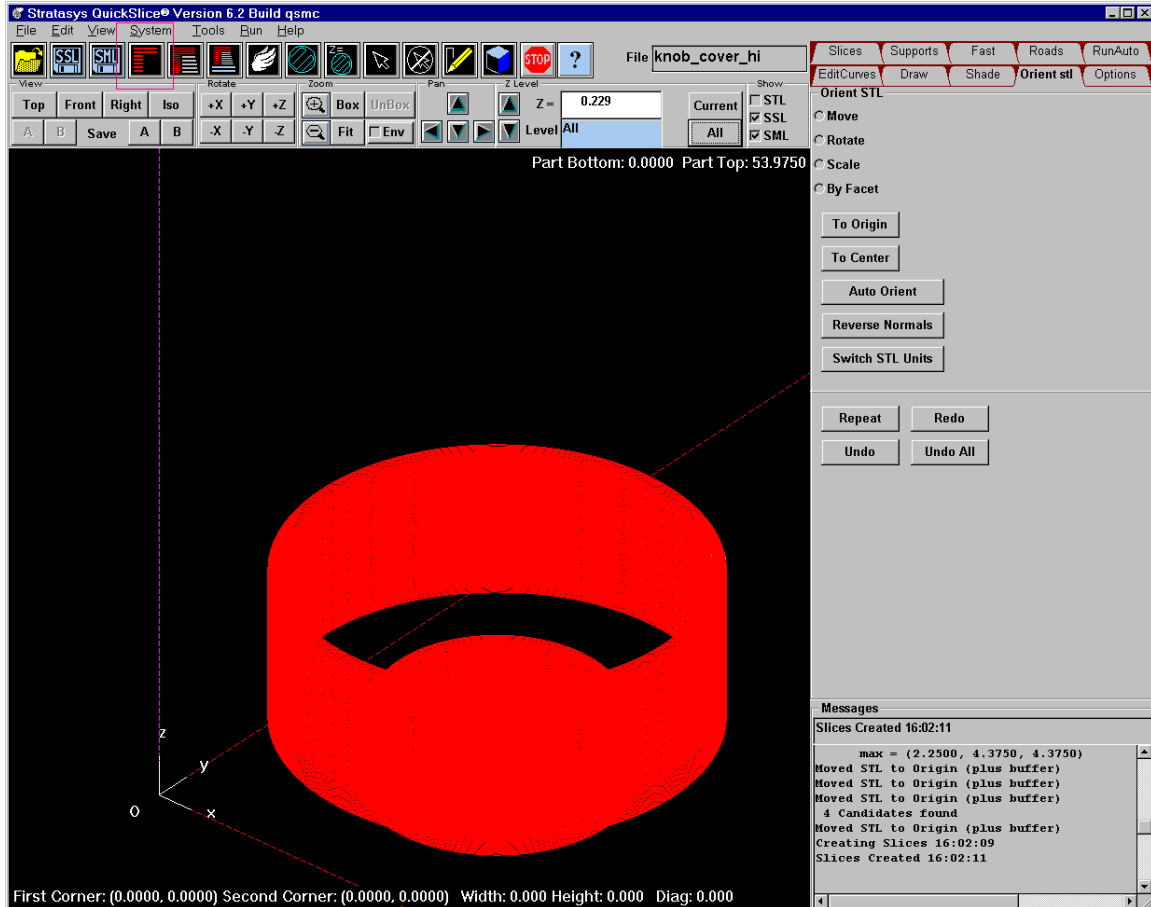

Figure 5: Slice Figure.
9. We will now need to create slices of model. Click the *Slice Icon*  on menu as highlighted in Figure 5 below, it is the left icon of three red icons. Text in bottom right corner will read “Slices Created” when finished.